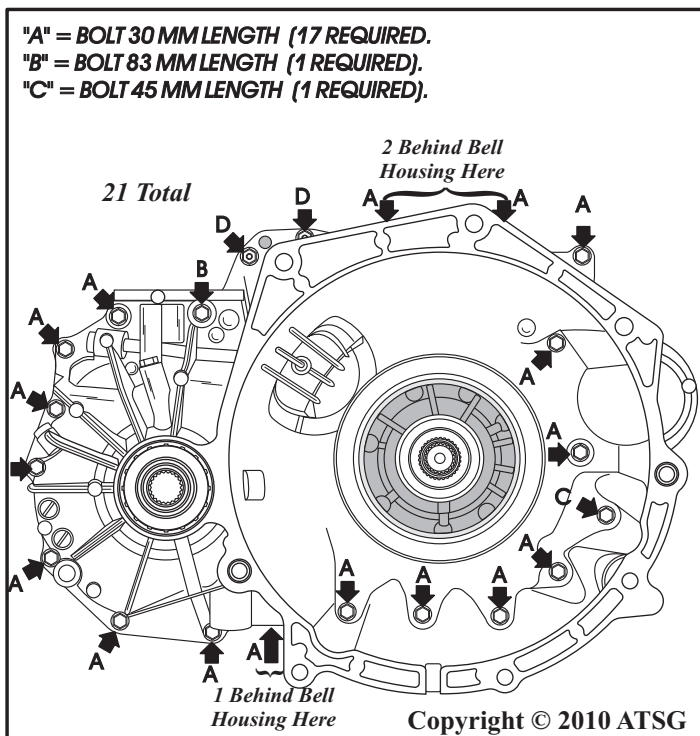

Figure 65
32. Remove the 21 converter housing bolts shown in Figure 65, using a 12 mm socket or wrench.
Note: Converter housing bolt configuration will vary depending on model and year. Some locations have "stud" bolts (See Figure 65).